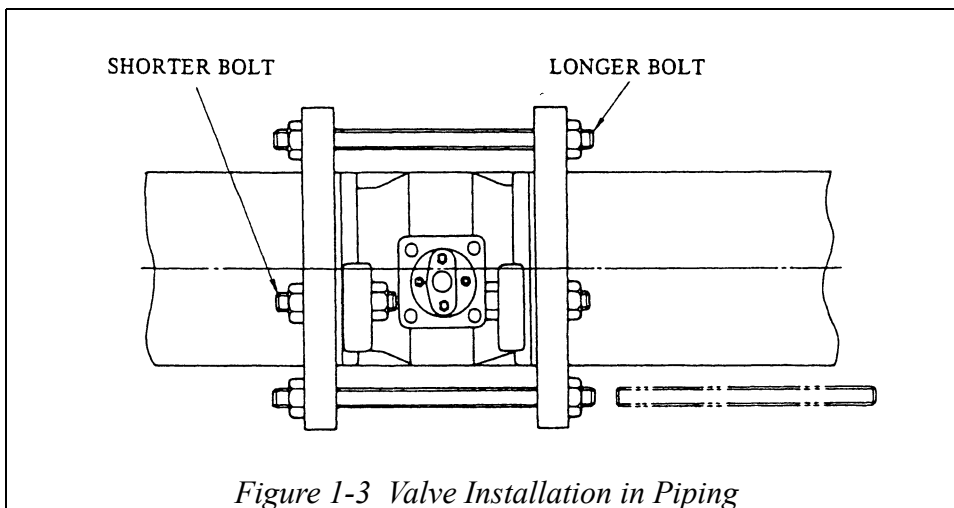

Figure 1-3 Valve Installation in Piping
- (1) Before installing the valve, remove scale, welding chips and any other foreign matter from both the upstream and downstream sides of the piping.
- (2) Pass the longer bolts through the lower half of the flanges (Making up a cradle for the valve) and place the valve on the cradle.
- (3) Place the gasket for piping and pass the longer bolts through the upper half of the flanges. For the mounting bolts, see Figure 1-3 and its table.